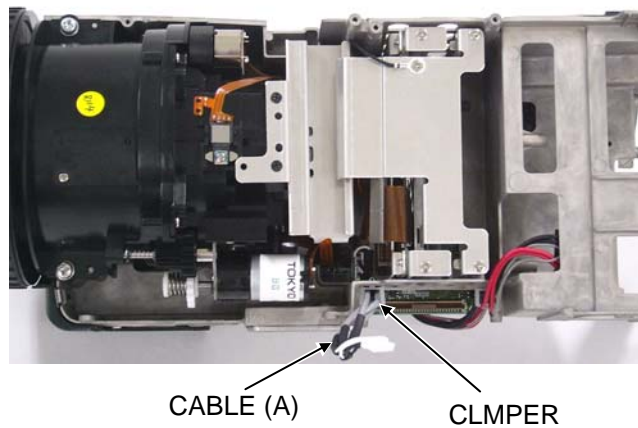

Figure 17-1
7. Remove the cable (A) from clumper as shown in figure 17-1.